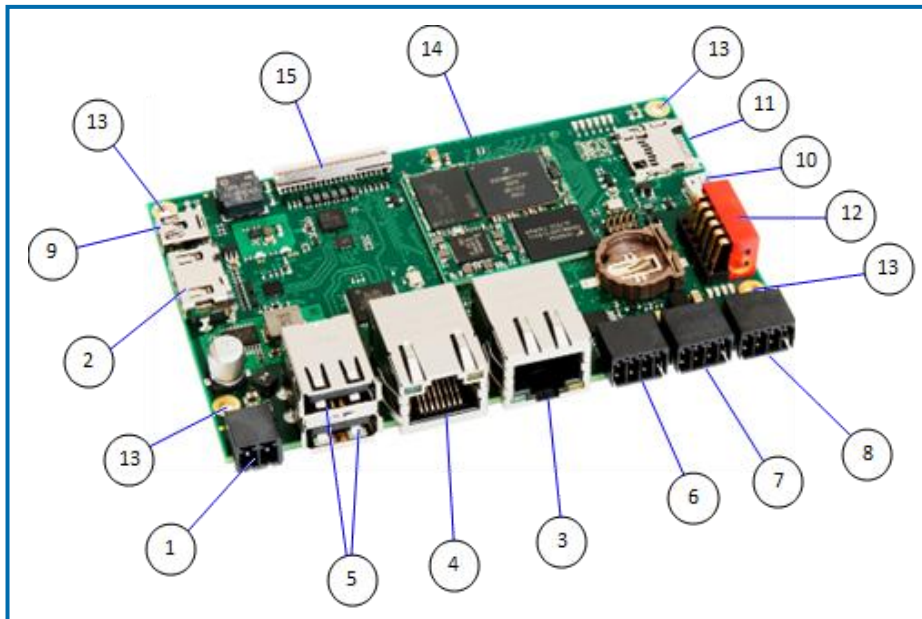

Figure 6: Top Side View
There is one 2-pin power connector on the top side of the board supporting an input DC voltage range of 24 V DC $\pm 20\%$, see Figure 6 (pos. 1). The mating connector required to connect the power connector to a DC main power source is supplied with the BL i.MX8M Mini. For information on how to connect the supplied mating connector to the input power source, refer to Chapter 7.2: Wiring the DC Mating Power Connector.
There is one HDMI interface (1920 x 1080 pixel resolution), for video solutions, see Figure 6 (pos. 2). The HDMI interface is not designed for connecting cables longer than 3 m. Depending on the monitor and the installation situation, a suitable HDMI cable with folding ferrite must be selected.
There are two LAN ports, see Figure 6 (pos. 3 and 4). In the software these are referred to as ETH0 and ETH1. The assignment between LAN2/LAN1 and ETH0/ETH1 depends on the software. In order to achieve the specified performance of the Ethernet port, shielded category 5 twisted pair cables must be used with 10/100 Mbit/s and Category 5E, 6 or 6E with 1 Gbit/s LAN networks. For the pin assignment of the RJ45 Ethernet connectors, refer to Chapter 10.2.3: Ethernet RJ45 Connector (X1001)
There are two USB 2.0 ports allowing for the connection of USB 2.0 compatible devices, see Figure 6 (pos. 5). The USB ports are designed for connecting short cables only.
There is a RS232 interface (RX/TX) supporting RTS/CTS, see Figure 6 (pos. 6). The RS232 interface is not designed for connecting cables longer than 3 m.
The RS485 interface in Figure 6 (pos. 7) contains also the wiring for CAN. The RS485 interface is not designed for connecting cables longer than 30 m.
The CAN interface in Figure 6 (pos. 7) also contains the wiring for RS485. The CAN address switches 1...4 are connected directly to GPIO pins and can therefore also be used for other purposes. The CAN interface is not designed for connecting cables longer than 30 m.
There is a four port DIO interface available on the front of the BL i.MX8M Mini, see Figure 6 (pos. 8).
There is a Debug interface using UART protocol with a Mini-B USB connector, see Figure 6 (pos. 9).
There is a Micro-USB OTG interface that can act as USB 2.0 compatible device or host, see Figure 6 (pos. 10).
There is a card slot to connect a microSD card for extra memory, see Figure 6 (pos. 11).
The GND pin of the power connector is connected to functional earth of the electronics and to the four mounting holes on the edges of the circuit board, see Figure 6 (pos. 13).
There is a LVDS interface to connect a LVDS display, see Figure 6 (pos. 15).
There is an extension connector for connecting customized add-on boards, see Figure 6 (pos. 14).